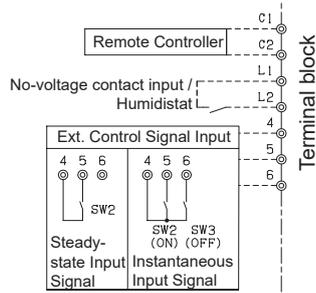

Figure 12: Wiring the controls to the humidifier
1. Connect control wires from the external controller to terminals 4, 5, and 6 on the main humidifier terminal block. Refer to Figure 12 on page 22.
1. Connect the external control input device to the main humidifier of the first group. Connect wires to terminals 4, 5, and 6 (if applicable) on the humidifier. Refer to Figure 12 on page 22.